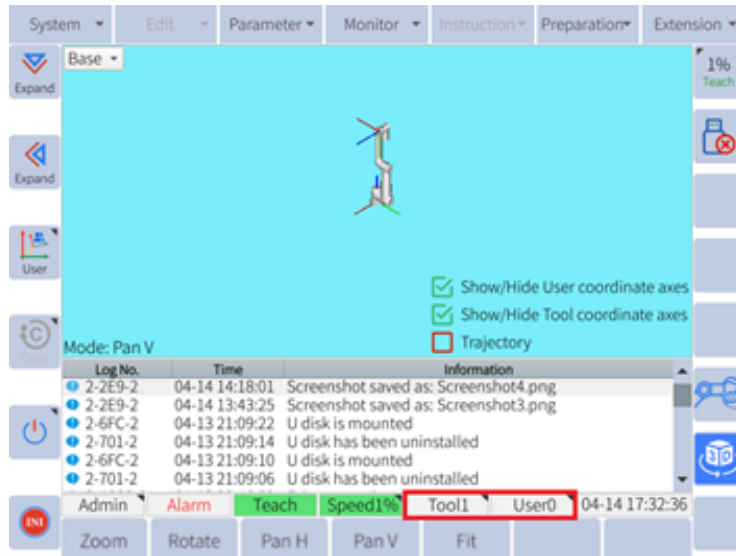

Figure 6-21: Tool and user
- b. Click “Tool” and “User” in the bottom menu to make changes in the user coordinate settings and tool coordinate settings, as shown in **Figure 6-21**: